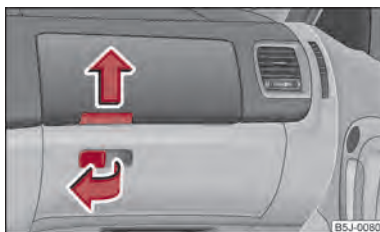

Fig. 63 Dash panel: Storage compartments on the front passenger side
- Pull the handle of the lid in direction of arrow ⇒ fig. 63 and fold it open.